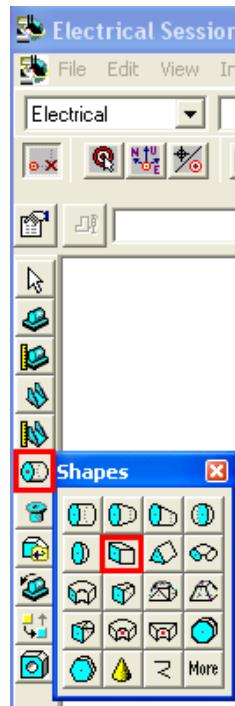

Figure 45: The SolidRectangular 001 Shape Selected
13. Click the Place Shape button and select the **SolidRectangular 001** to specify the shape of the design equipment. Figure 45 shows the required shape highlighted.